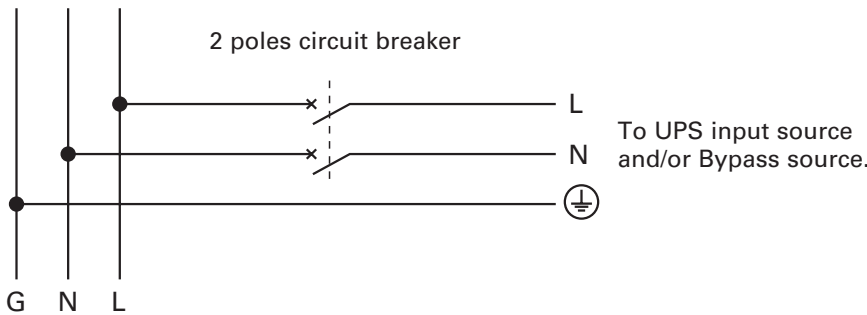

Figure 8. Upstream protection.
- 1. Recommended upstream protection (*see figure 8*)